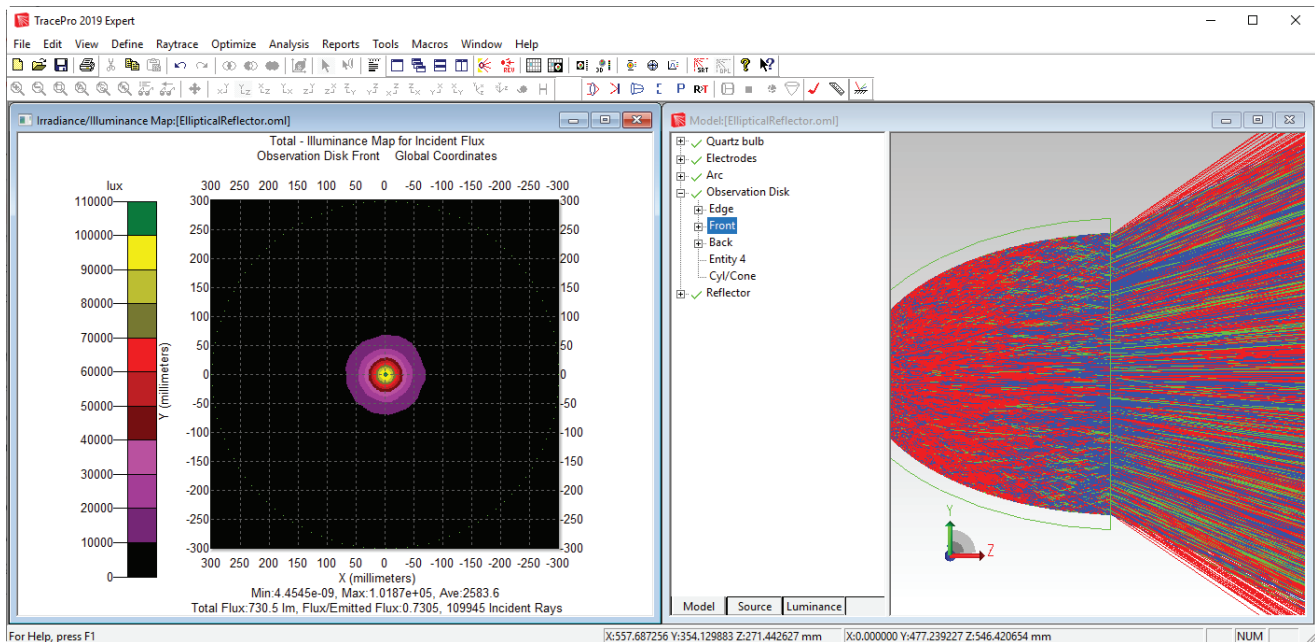

Figure 11. Illuminance map of rays traced with the front of the observation disk selected in the system tree.
2. Next select **Analysis | Irradiance/Illuminance Maps** to see the plot shown at the left side of Figure 11.